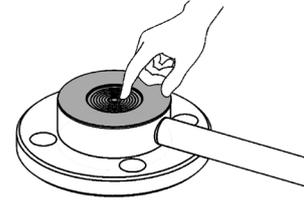

Figure 2-15. Excess Grease Removal
- (4) After attachment, confirm that no air remains between the diaphragm and the FEP protective film. If air remains, it may affect measurements. In this case, press the air out with your finger outward from the center of the diaphragm (Figure 2-15).
- (5) Place the gasket against the flange of the pressure-receiving part, and attach it to the process flange. The tightening torque for the bolts and nuts is shown in Table 2-2. During bolt tightening, apply an equal amount of tightening torque to each bolt.